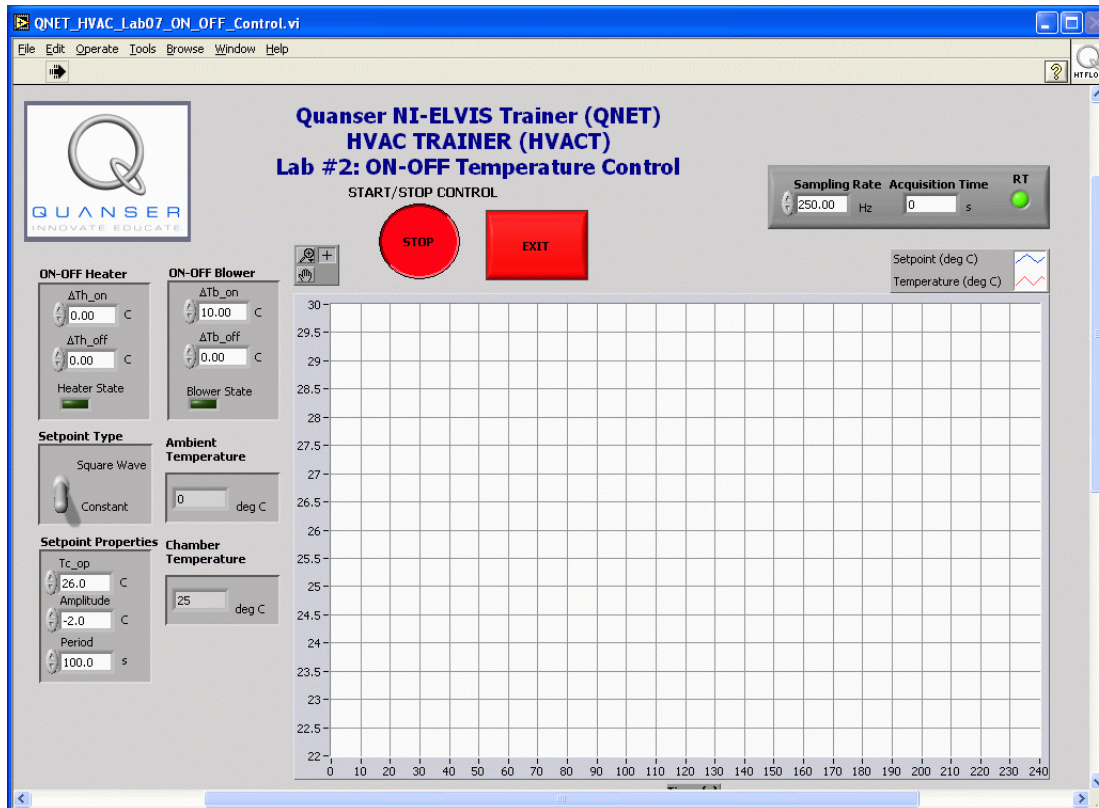

Figure 4 Front Panel Used for the QNET-HVACT ON-OFF Temperature Control Laboratory
Step 2. Open the VI controller file *QNET_HVAC_Lab_07_ON_OFF_Control.vi*. You should obtain a front panel similar to the one shown in Figure 4, below. The default sampling rate for the implemented digital controller is 250 Hz. However, you can adjust it to your system's computing power. Please refer to Reference [1] for a complete system's description. The chamber temperature, directly sensed by the thermistor, is plotted on a chart (in blue) as well as displayed in a Numeric Indicator located in the *Chamber Temperature* front panel box. The values are in degrees Celsius (°C).